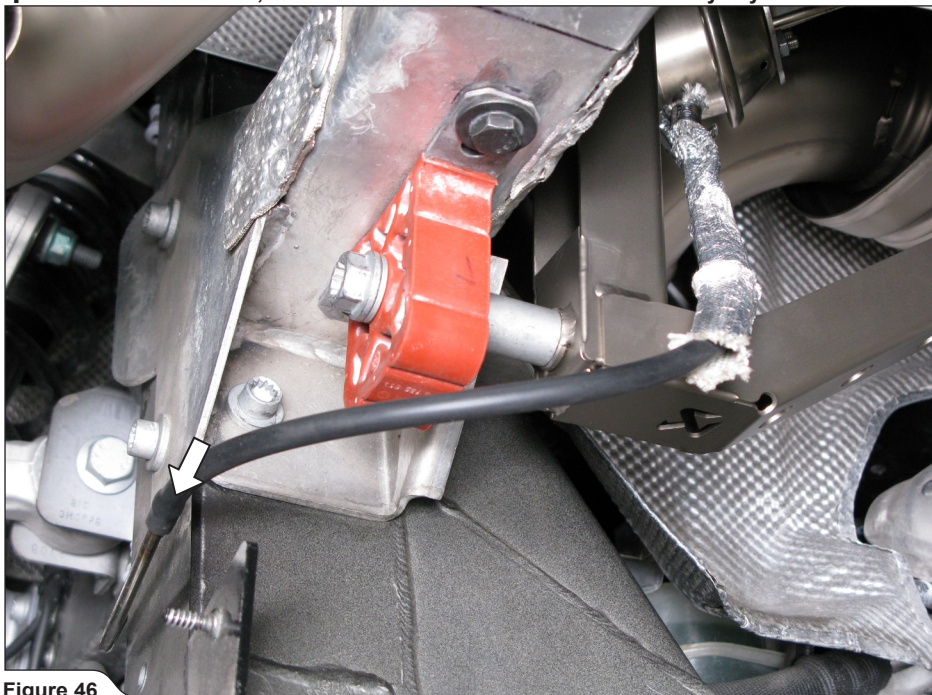

Figure 46
8. Direct the vacuum tubes as shown, shorten the left vacuum tube to appropriate length and connect the Akrapovič vacuum tubes to the stock metal vacuum tubes on both sides of the vehicle (Figure 46, 47).